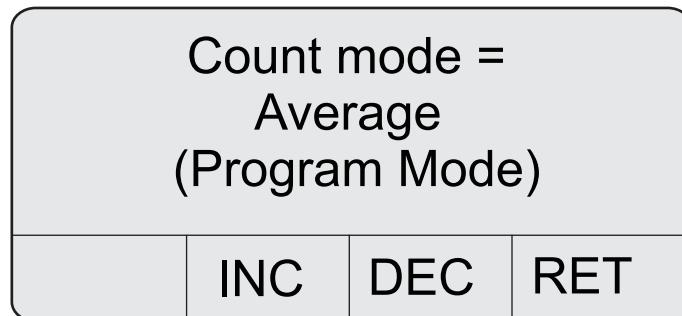

Figure 15 Count mode screen
2. Press 2 (NXT) to display the Count mode screen (refer to Figure 15).